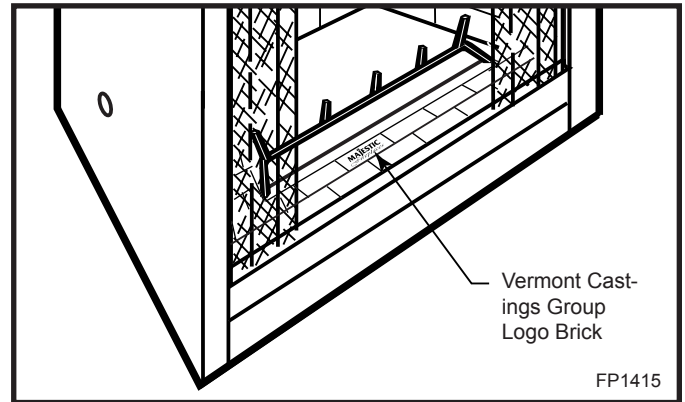

Fig. 6 Lift brick with logo on it to access valve.
2. Lift the brick with the Vermont Castings Group logo on it. (Fig. 6)